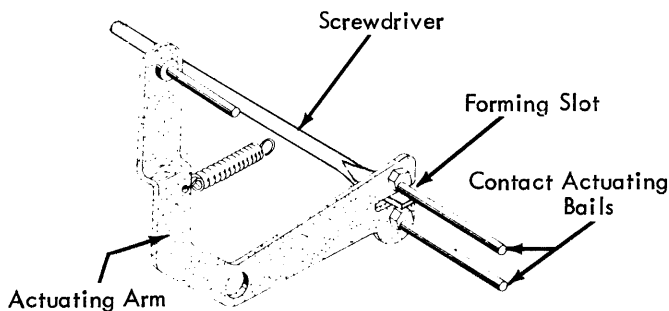

FIGURE 180. Parallel Actuating Bail
3. Parallel Actuating Bails (Fig. 180) - Form the actuating arm slot as required to provide equal latch to O/P stop clearances where a bail actuates more than one contact.